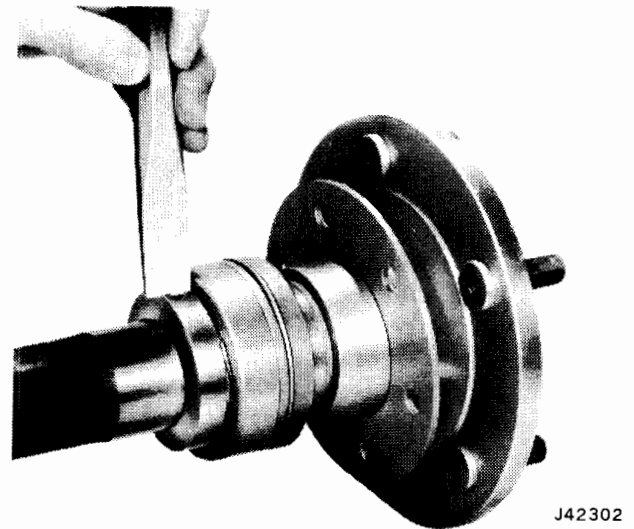

Fig. 10-24 Notching Bearing Retainer Ring
(8) Mount axle shaft assembly in vise.
(9) Using chisel, cut deep groove into retaining ring. This will enlarge ring, or split it, allowing ring to be driven off axle shaft (fig. 10-24).